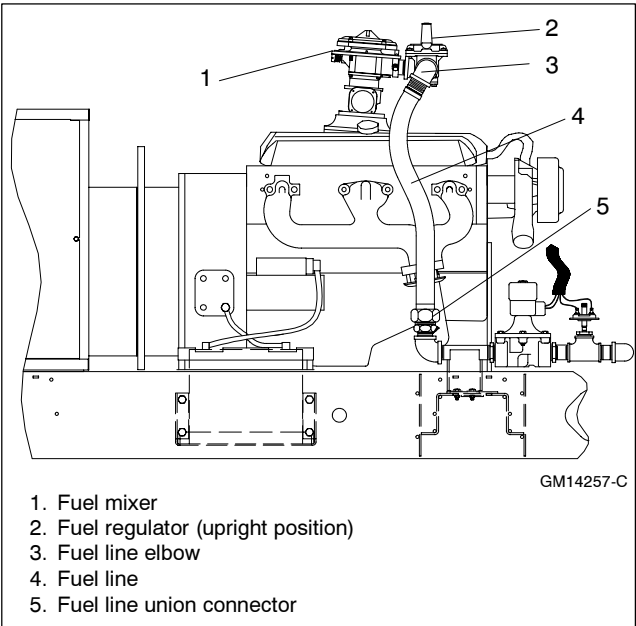
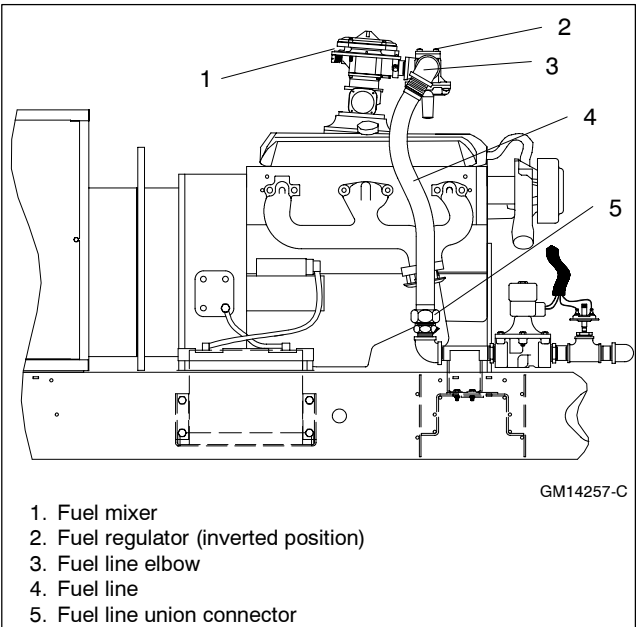

Figure 1 Natural Gas Fuel System Configuration
Figure 2 LP Gas Fuel System Configuration
See Figure 1 and Figure 2. Illustrations show the 50/60 kW models—the 80/100 kW models are similar.
- 3.4 Disconnect the fuel line at the union connector. See Figure 1.